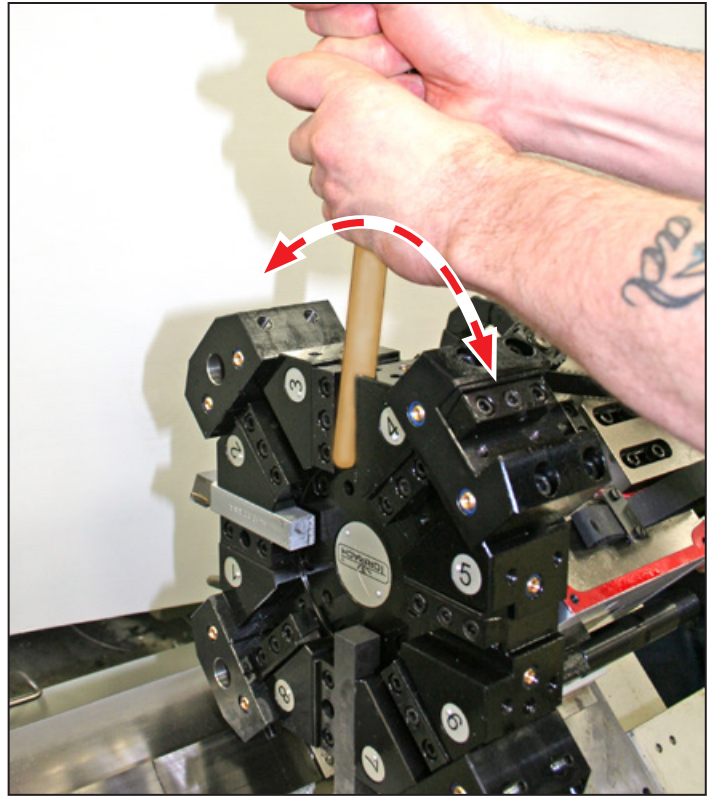

Figure 43
4. Check to make sure that the turret is locked by inserting a 3/4" broom handle (or similar wooden dowel) into the pocket and then rotating the turret back and forth as shown in **Figure 43**. The turret is mechanically locked when no further rotation is possible.